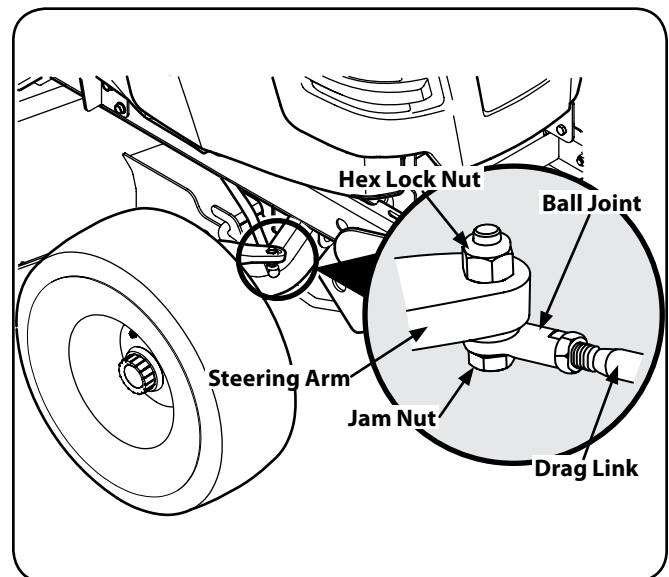

Figure 6-9
5. Loosen the jam nuts from the ball joints. See Figure 6-9.
6. Disconnect the front ball joints from the steering arms by removing the hex lock nuts. Refer to Figure 6-9. Manually move each wheel to achieve the required toe-in and equal D measurements.